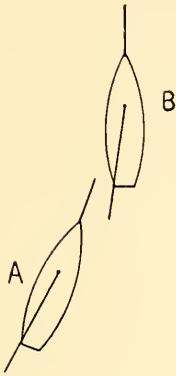

FIG. 68.
Question: (3) When B. has drawn nearly ahead of A., so that B.'s counter overlaps A.'s bowsprit, A. luffs sharply, and strikes B. (Fig. 68).